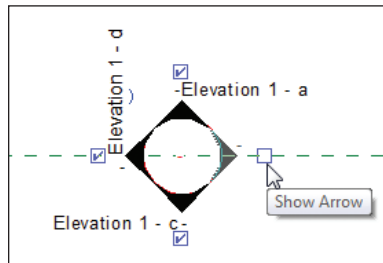

FIGURE 3.80 Turn on all four views in the lobby.
4. With the elevation marker centered in the lobby, select the round bubble. Notice that four blue boxes appear, as shown in Figure 3.80. These boxes let you turn on multiple views. Turn on all four views, as shown in Figure 3.80.